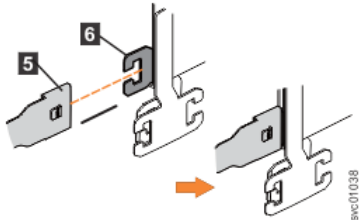

Figure 76. Attach the support rail connector of the upper CMA to the right support rail
4. Attach the support rail connector on the upper CMA assembly (5) to the connector base on the right support rail (6), as shown in Figure 76 on page 65.